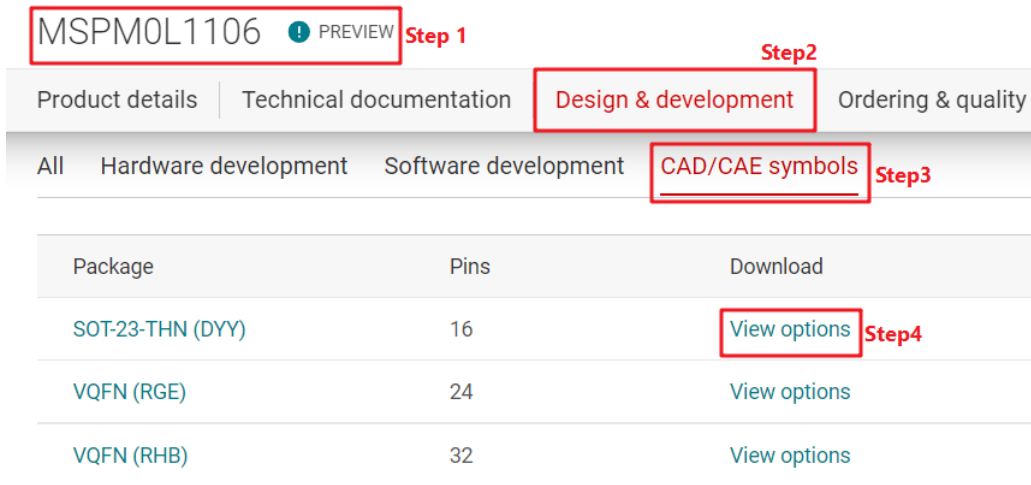

Figure A-11. Ultra Librarian Tool Start Page
- Go to the start page of the Ultra Librarian tool under the MSPM0 device page using the steps shown in Figure A-11.